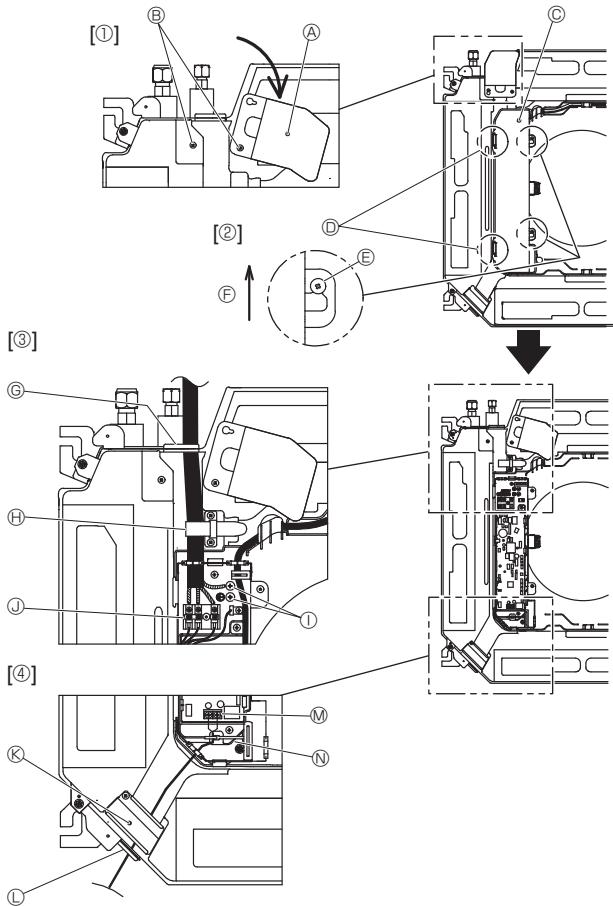

Fig. 6-1
### 6.1. Indoor unit (Fig. 6-1)
- Loosen the two screws securing the electrical wiring service panel, and then turn the electrical wiring service panel. [Fig. 6-1 ①]
- Loosen the two screws securing the electrical box cover, then slide the electrical box cover. [Fig. 6-1 ②]
- Pass the power cable, indoor/outdoor unit connecting cable and earth cable through the wiring entries given in the diagram. [Fig. 6-1 ③]
- Pass and wire the remote controller cable through the wiring entries given in the diagram. [Fig. 6-1 ④, Fig. 6-3]